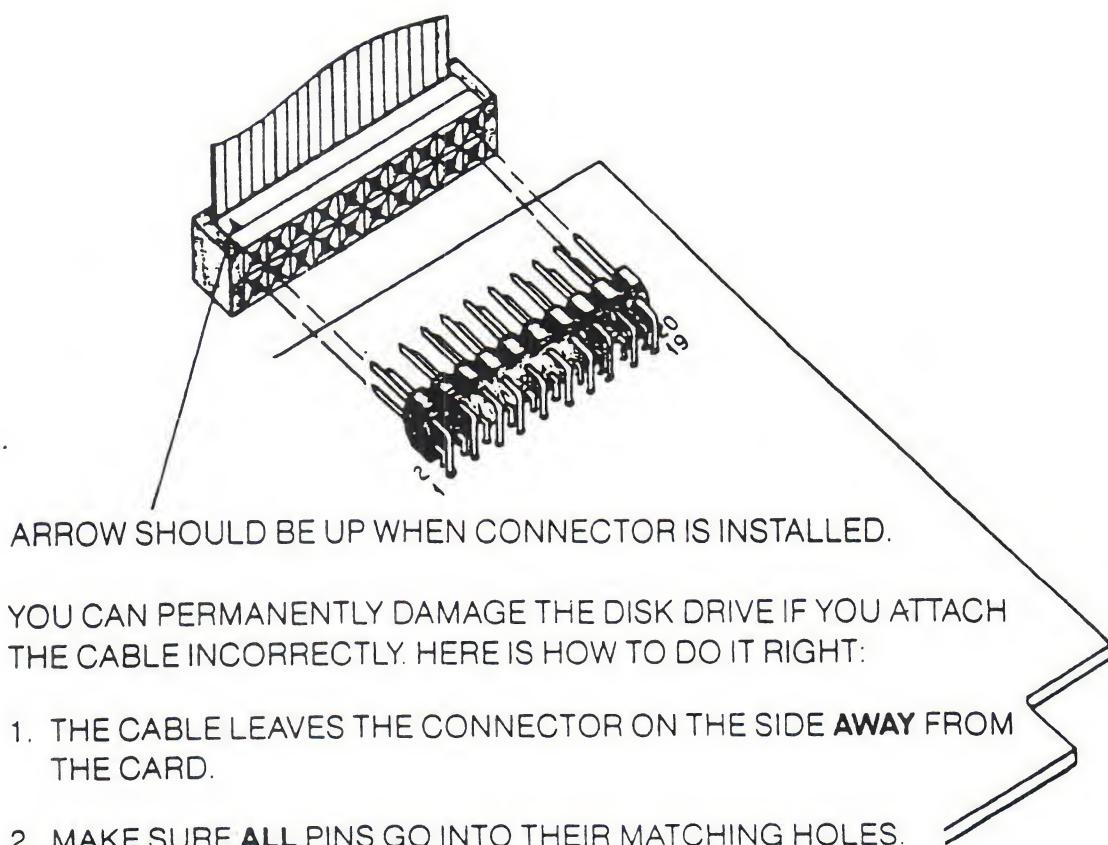

FIGURE 1
7. Then carefully attach the ribbon cable to the interface card, as shown in figure 1.